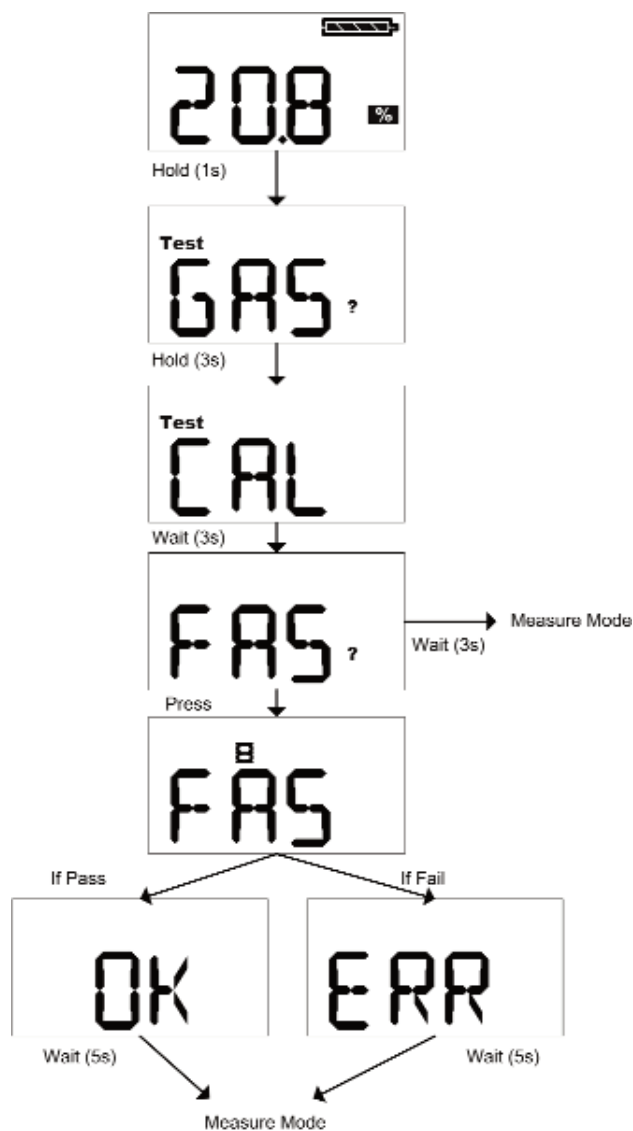

Figure 4-2 Calibration (Oxygen) Flow Chart
- See FIGURE 4-2 for more details.